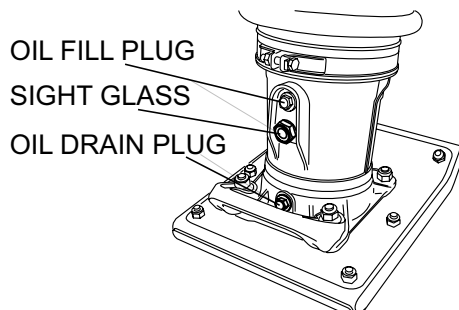

Figure 12. Oil Drain Plug
- Remove the oil drain plug on foot housing (Figure 12) and drain the oil. Refill with approximately 1.4 pint (650 cc) of 10W-30 SE, SF or higher grade motor oil. Oil should be midway in sight glass. Break in oil should be changed after first 50 hours.